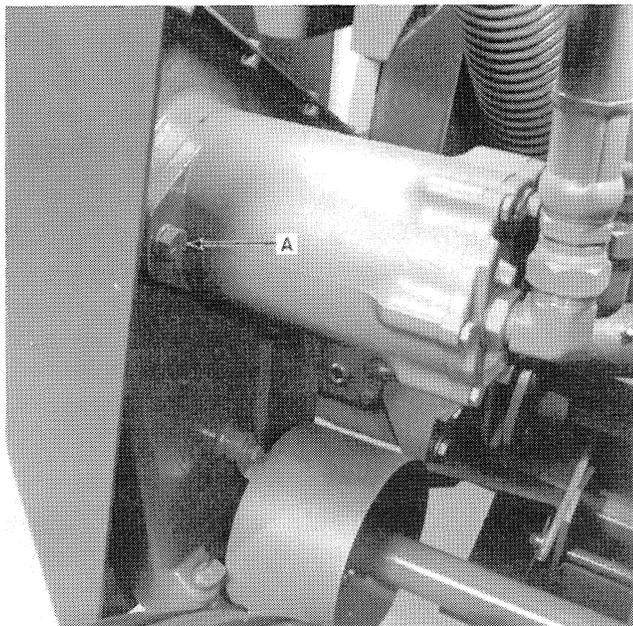

FIGURE 21
1. Disconnect hoses from motor, Figure 21. Cap hoses to prevent foreign material from entering system.